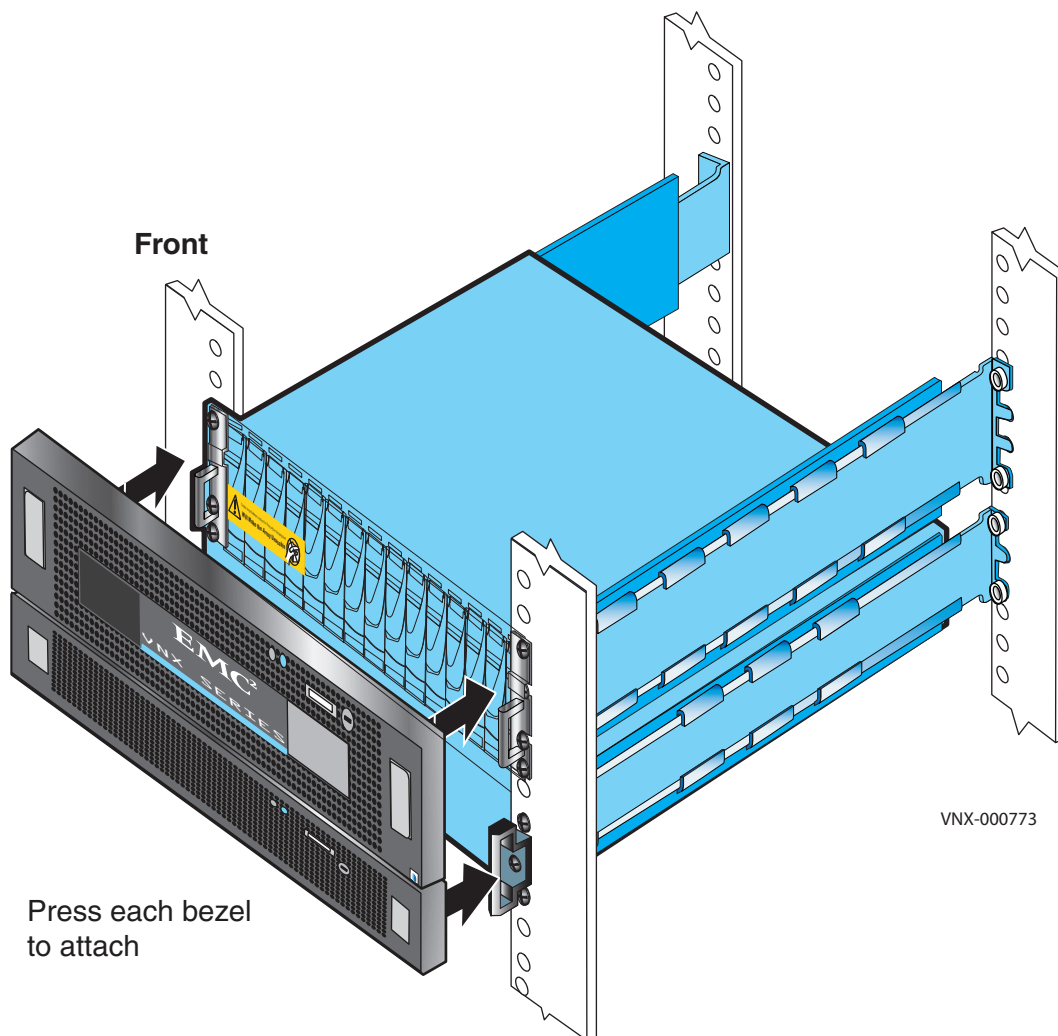

Figure 24 Attaching the bezels
3. Press the bezel into the bracket until it clicks into place as shown in Figure 24 on page 39. Bezels have a lock built in to them, so you can opt to lock the bezels in place with the key provided.